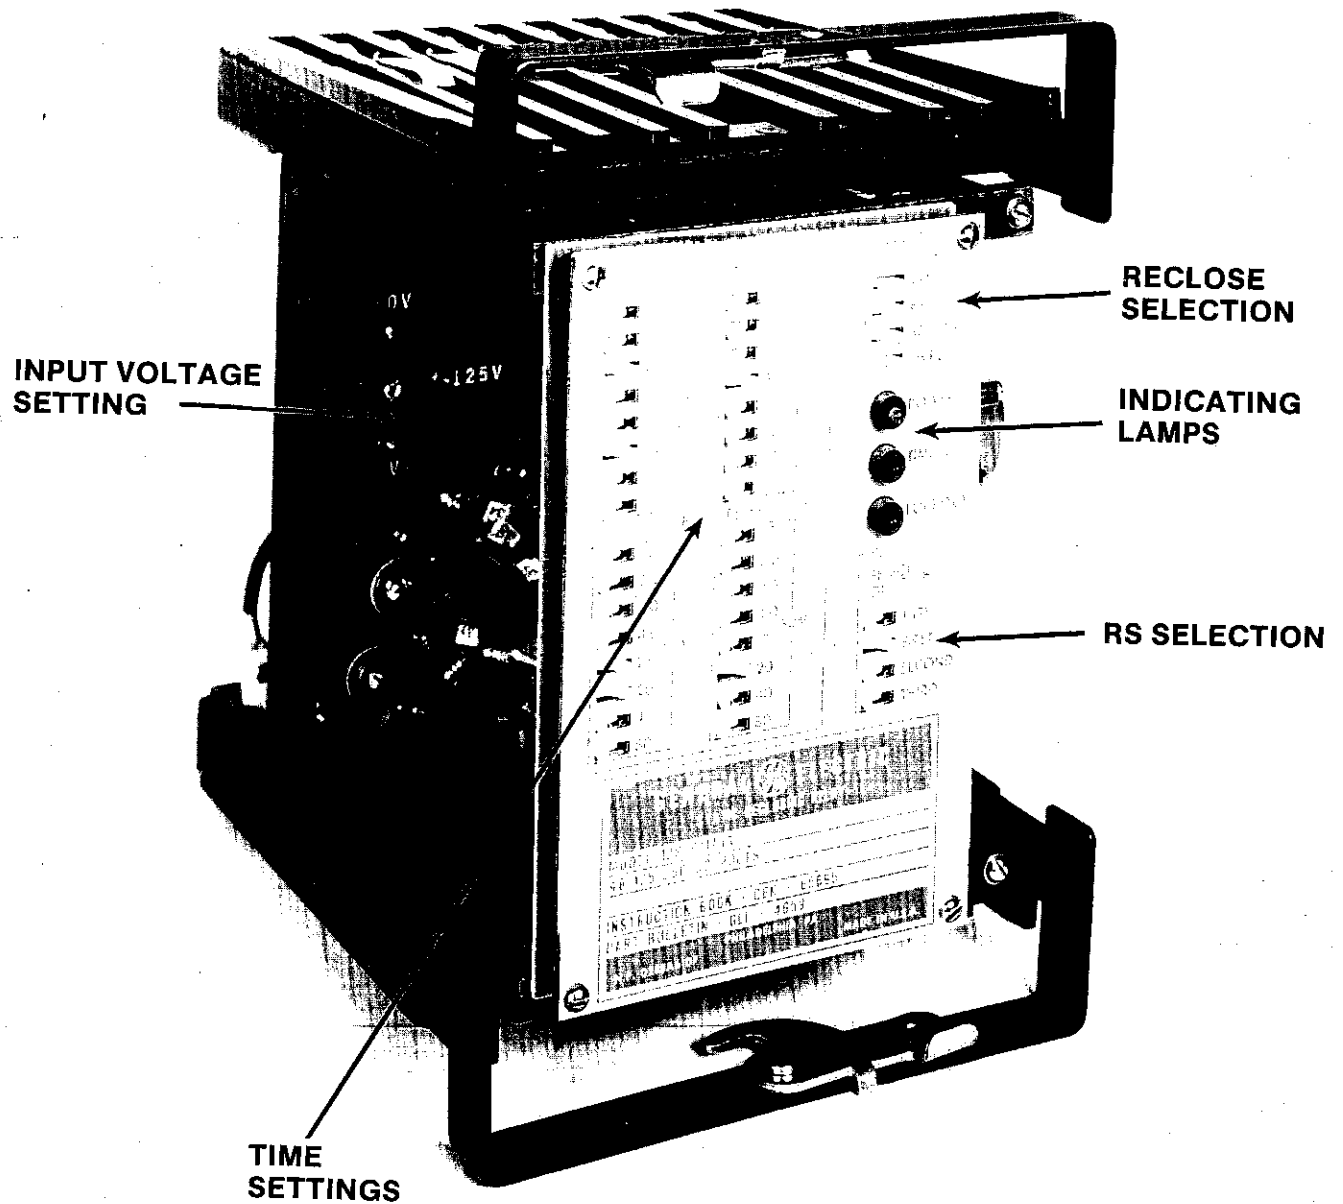

Fig. 5A (8043710-0) SLR Relay, Front View
- Fig. 5A SLR Relay, Front View